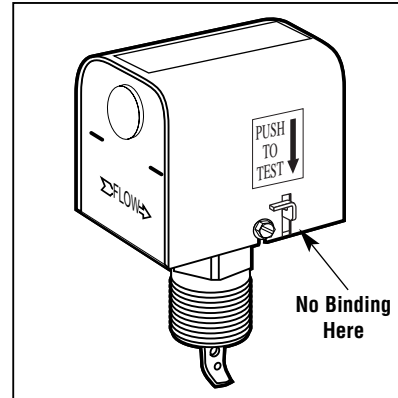

Figure 1
- a) Place cover on flow switch making sure the test lever is protruding through the appropriate slot in the cover. Check to make sure the lever doesn't bind with the cover as noted in figure 1.